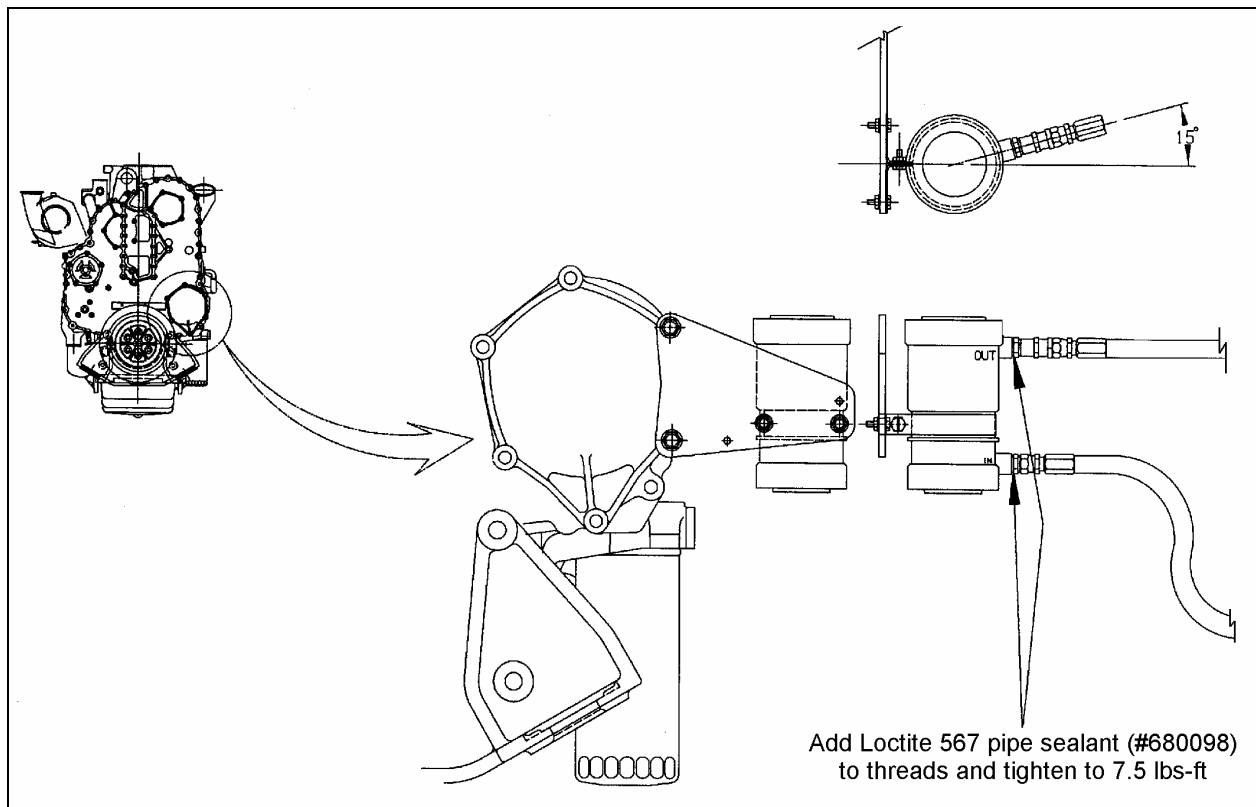

FIGURE 1: LINE INSTALLATION ON FUEL PUMP
1. Add Loctite 567 pipe sealant to threads (refer to figure 1);